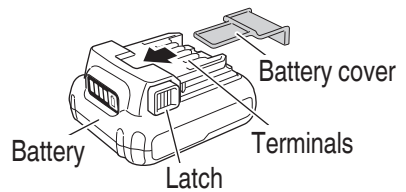

Fig. 1
- To prevent shorting from occurring, load the battery in the tool or insert securely the battery cover for storing until the ventilator is not seen (See Fig. 1).